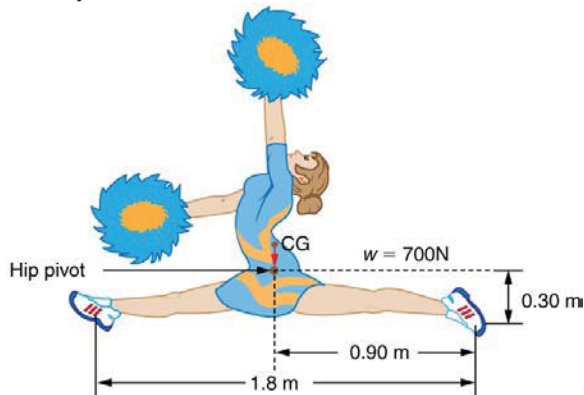

Figure 9.36 A gymnast performs full split. The center of gravity and the various distances from it are shown.
16. A gymnast is attempting to perform splits. From the information given in Figure 9.36, calculate the magnitude and direction of the force exerted on each foot by the floor.